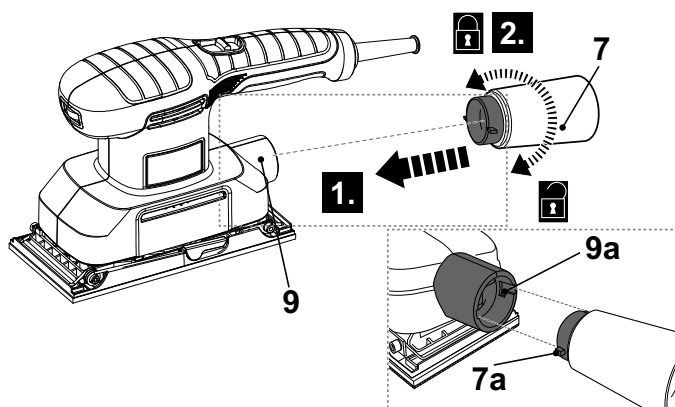

Fig. 12
- > Align the tongues (7a) with the grooves (9a) and then insert the vacuum adaptor (7) into the dust extraction outlet (9) all the way to the stop (Fig. 12, step 1).
- > Turn the vacuum adaptor (7) clockwise to secure it in place (Fig. 12, step 2).